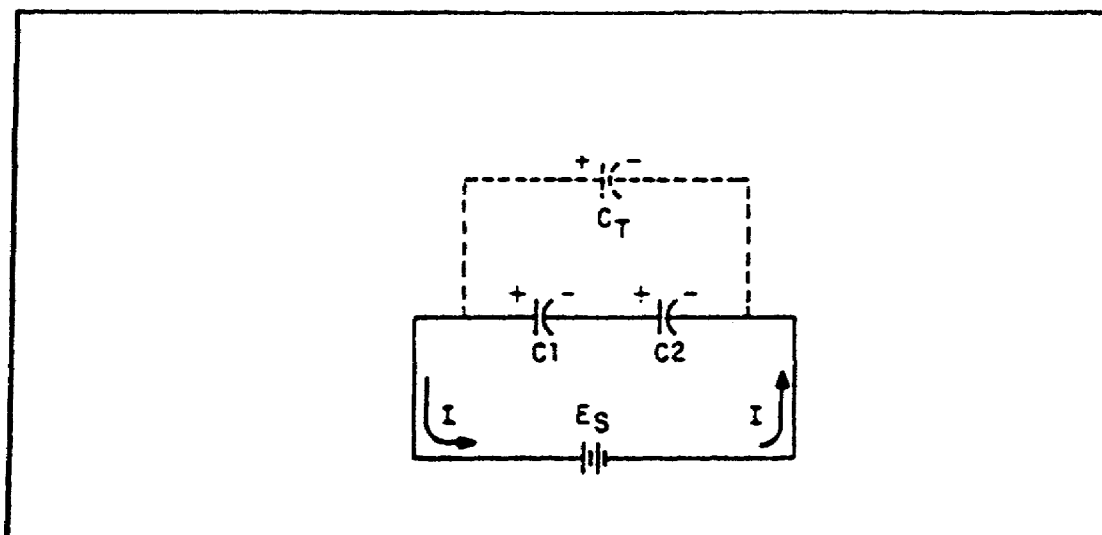

FIGURE 39. CAPACITORS IN SERIES.
(1) *Capacitors in Series.* The overall effect of connecting capacitors in series is to move the plates of the capacitors further apart. This is shown in figure 39 on the following page. Notice that the junction between C1 and C2 has both a negative and a positive charge. This causes the